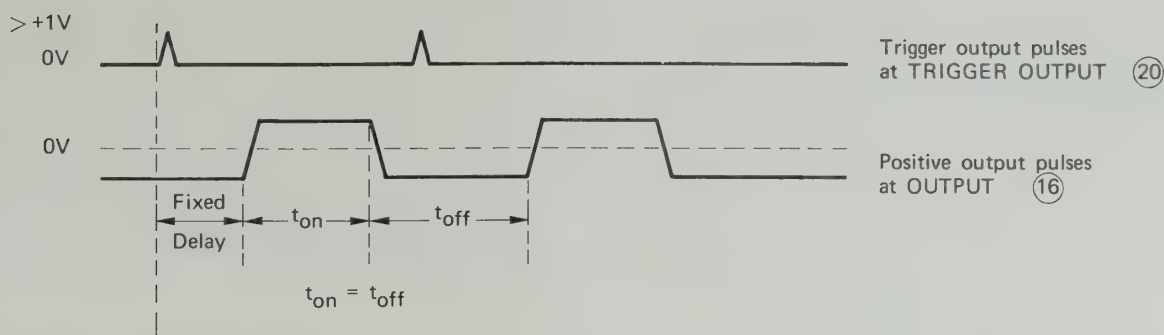

Figure 3-14. Output pulses in square wave mode
3-33 The output pulses should appear at the OUTPUT connector (16) as shown in figure 3-14.